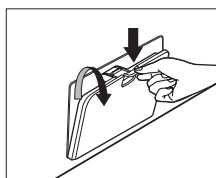

Fig. 12
- Open the service flap.(bottom right corner) (Fig. 12)